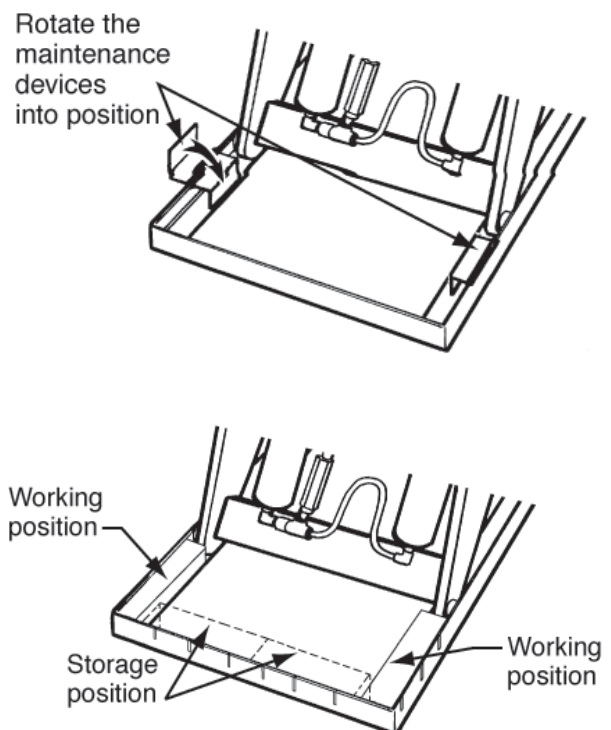

Fig. 1 – Safe Servicing of Lift
3. Remove the maintenance device(s) from its/their storage location and place it/them into the engaged position as shown in Figure 1.
12. **Raise and chock the lift**, as shown in Fig. 1.
When adjusting the flow control, always raise the lift table and insert the maintenance chocks, as shown in Fig. 1. Don't try to adjust the flow control while pressing the “down” button. If you try this, the lift table may drop suddenly, and you may be hurt.
- **Raise the lift table and chock the legs**, as shown in Fig. 1.